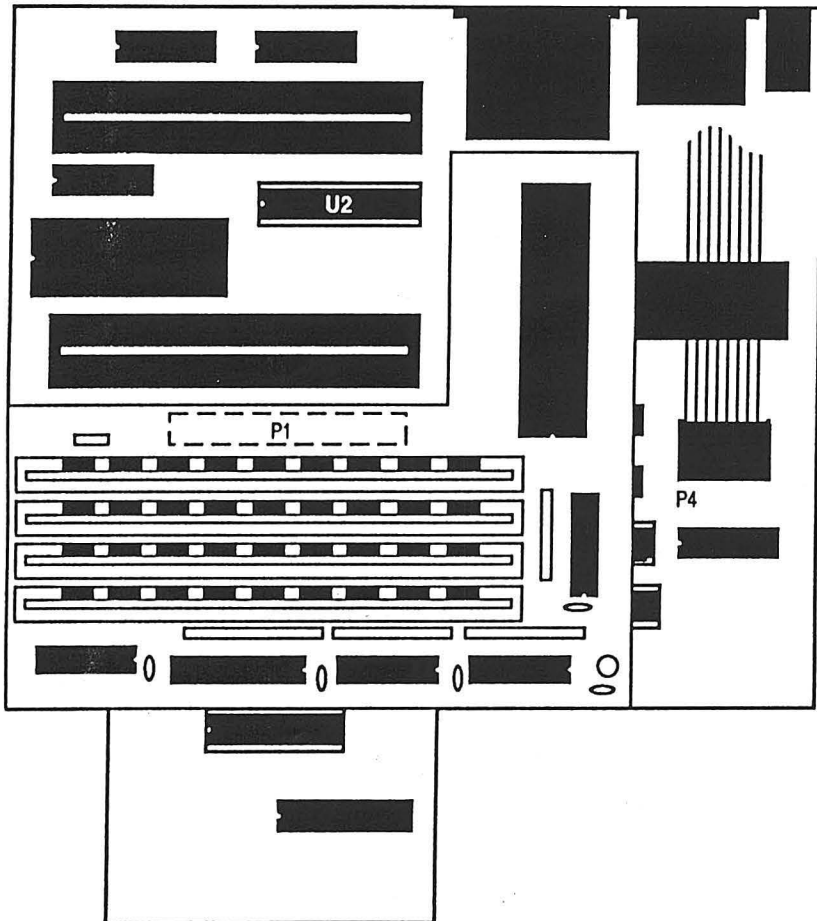

Figure 3
4. Using a small flat blade screwdriver or an IC extractor, remove the ribbon cable header from the socket labelled P4 on the main circuit board (see Figure 3 for location). You may now set the top half of the case aside.
2. Locate RAMLink IC U2, which is between the RAM Port and Pass-Thru Port connectors on the RAMLink main board. Using a small flat blade screwdriver or IC extractor, remove the chip currently in that socket and replace it with the GAL IC included in the kit (CMD part number RL-701037D). Make sure that the chip orientation is correct before installing it (notch to the left as shown in Figures 3 and 4 of this addendum).